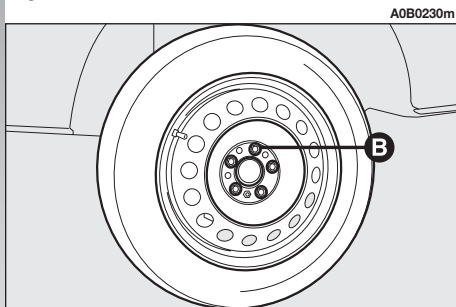

fig. 4
- Loosen the fastening bolts by approx. one turn (**B-fig. 4**).
- Completely unscrew the bolts (**B-fig. 4**), and remove the wheel.